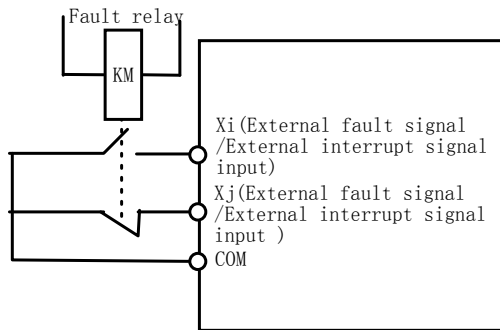

Fig. 5-3-6 Normally open / normally closed
- ◆ EH0 - External fault signal normally open / EH1 - External fault signal normally close: This is to define external fault command. If the setting is 37~38, the fault signal of external equipment can be input by the terminal. Once the inverter receives the fault signal, it stops output immediately, and displays last fault code. After the external fault signal is removed, the inverter needs to be reset before restarting. Tips: Inverter can't reset if external fault signal isn't released. EH0 and EH1 are not influenced by P3.00, Shown in Fig. 5-3-6.
- ◆ EI0 - External interrupt signal normally open / EI1 - External interrupt signal normally closed: During operating, the inverter stops its output and runs at zero-speed when it receives external interrupt signal. Once the signal is removed, the inverter will start and resume normal operation. Please refer to note of EH0 and EH1 above. As shown in Fig. 5-3-6.